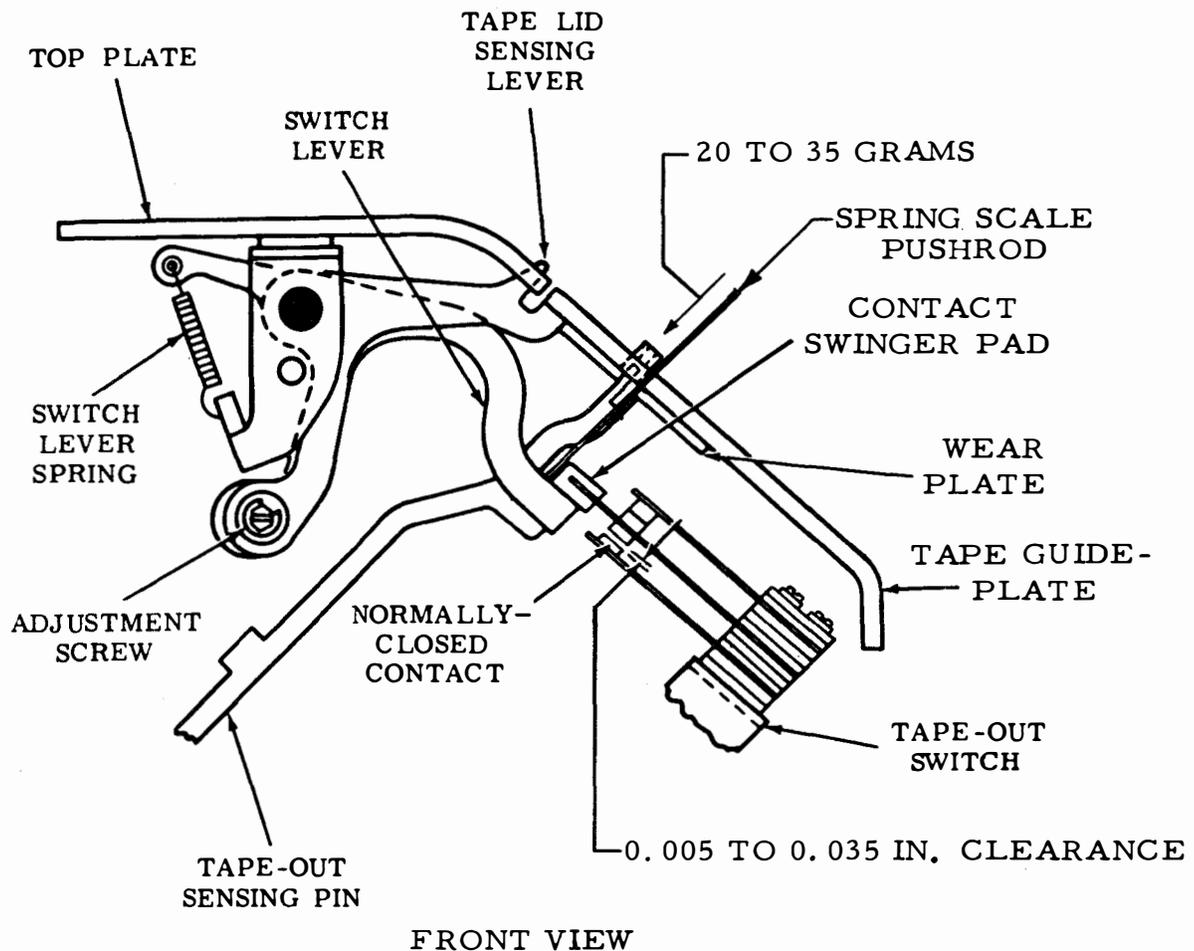

Figure 6-63. Switch Lever Spring and Switch Lever
(1) Switch Lever Spring. Adjust switch lever spring as follows:
- (a) Refer to figure 6-63.
(2) Switch Lever. Adjust switch lever as follows: